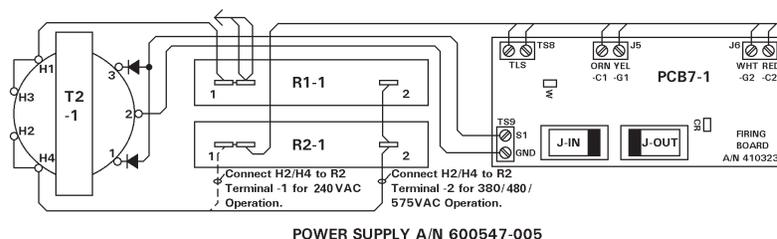

Figure 4-2. Sense Transformer jumpers settings
2. **Sense Transformer:** Jumpers on T2-H2/H4 to R2-1 must be configured to match the line voltage. For T2-H2/H4 to R2-1 wiring, see Figure 4-2.